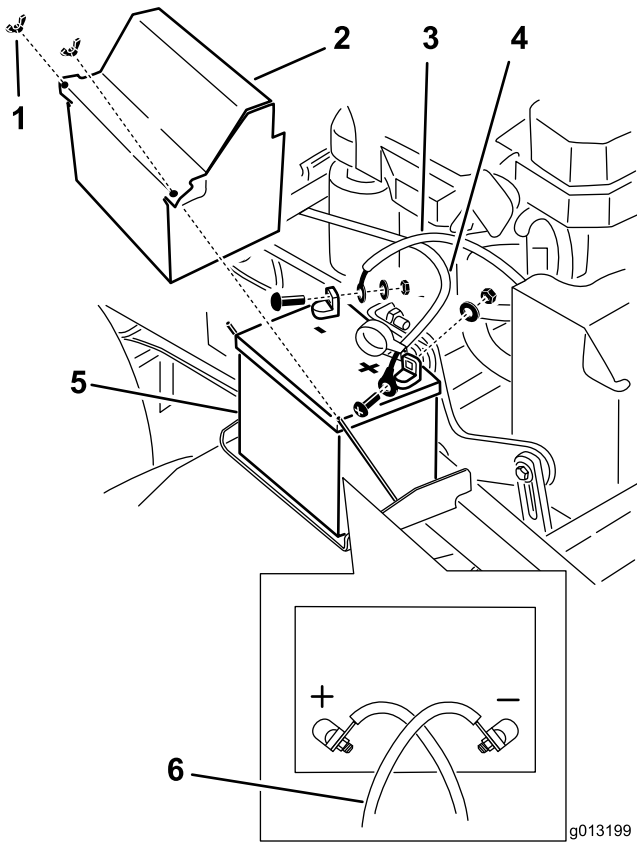

Figure 51
3. Disconnect the negative battery cable from the negative (-) battery terminal (Figure 51).
4. Slide the red terminal boot off the positive (red) battery terminal. Then remove the positive (red) battery cable (Figure 51).
5. Remove the battery hold down plate (Figure 51) and remove the battery.
1. Place the battery onto the machine (Figure 51).
3. First, install the positive (red) battery cable to positive (+) battery terminal with a nut, washer and bolt (Figure 51). Slide the rubber cover over the post.
4. Then install the negative battery cable and ground wire to the negative (-) battery terminal with a nut, washer and bolt (Figure 51).
Note: The battery cables will crossover each other when the are correctly installed (Figure 51).